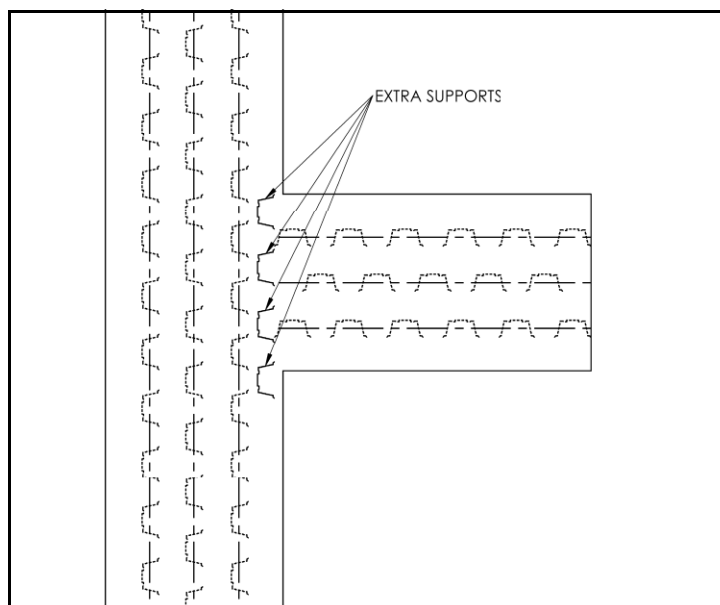

Figure 2.8
7. When working around tunnel intersections, extra supports will be required to support the plank ends (Figure 2.8).